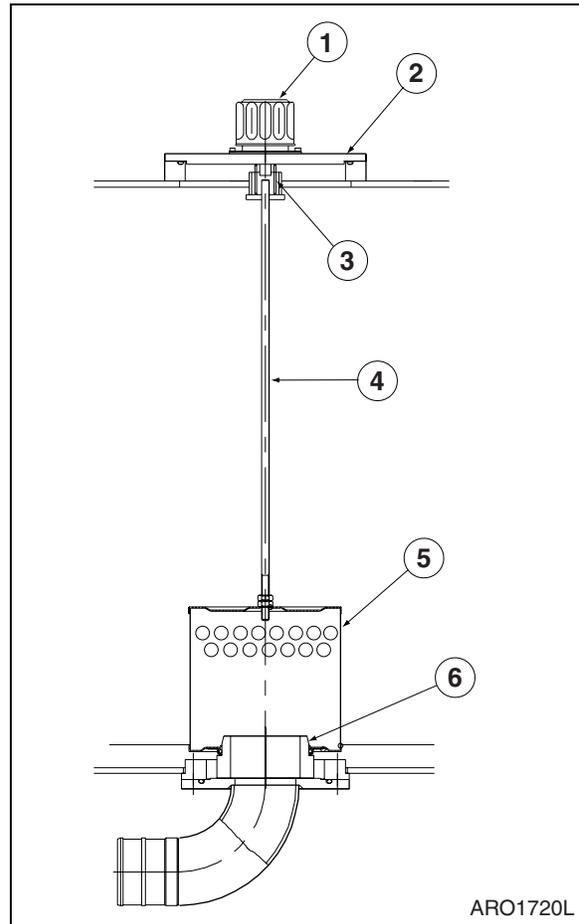

Figure 80
4. Release pressurized air from hydraulic tank by rotating air-breather cap (1, Figure 80).
6. Carefully remove bolts and cover (2, Figure 80) from top of hydraulic oil tank. There is a spring (3) under the cover that will force the cover up.
7. Remove spring (3, Figure 80) and strainer (5), by pulling on rod (4).
9. Position strainer (5, Figure 80) on boss portion of suction pipe (6).
11. Place spring (3, Figure 80) on rod (4) and assemble cover (2).